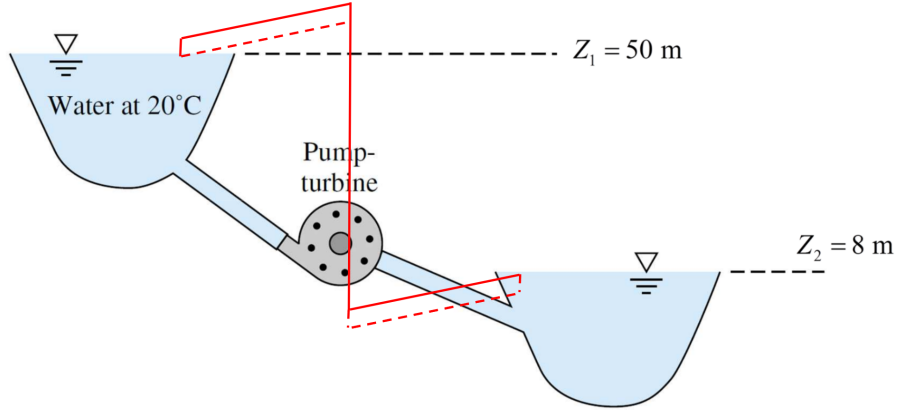

Figure 10: Night time EGL (solid line) and HGL (dashed line).
- (f) The HGL and EGL during the night time are shown in Fig 10.